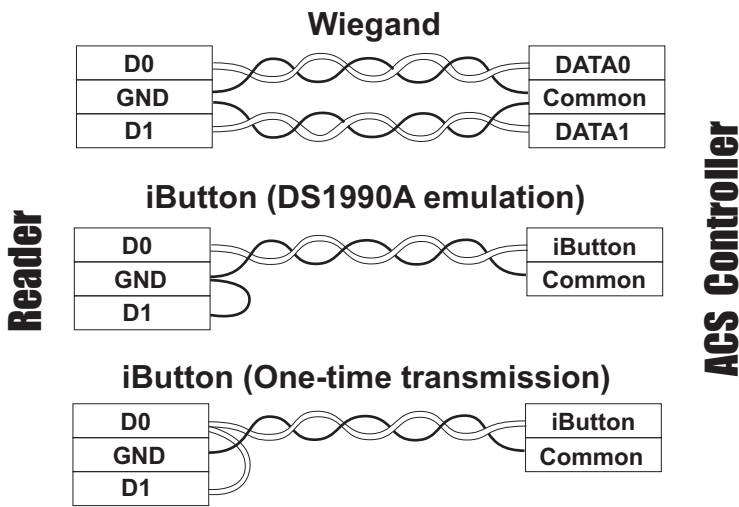

Figure 2. Choosing the transmission protocol.
- Connect wires to the reader per Figures 2 and 3. When power is properly connected, the red LED will light up.